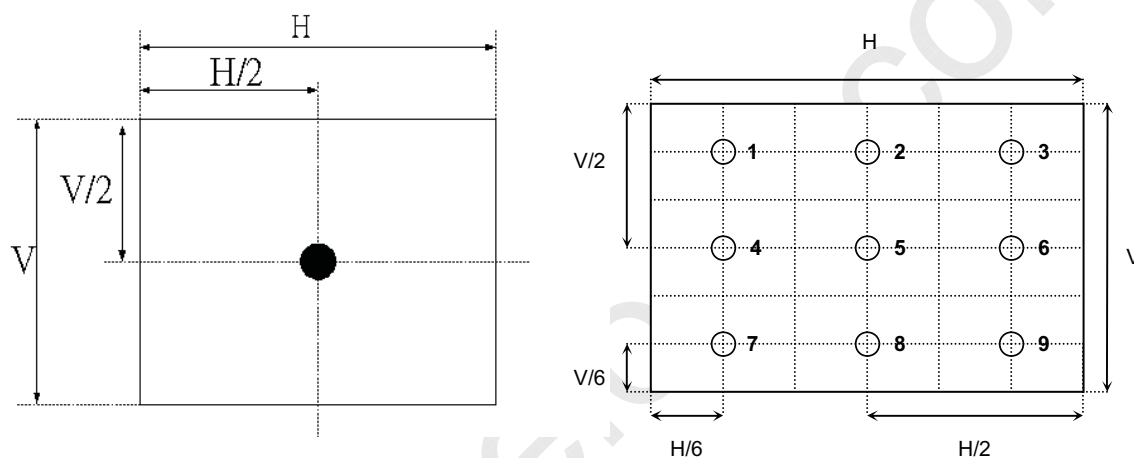

Fig.4-2 Optical measurement point
2. Surface luminance is luminance value at point 5 across the LCD surface 50cm from the surface with all pixels displaying white. From more information see Fig. 4-2. When  $V_{DDB} = 28V$ ,  $I_{DDB} = 3.57A$ .  $L_{WH} = L_{on5}$ , Where  $L_{on1}$  is the luminance with all pixels displaying white at center 5 location.